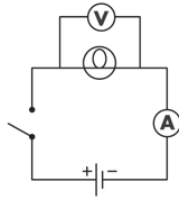

Figure 6.6: Circuit diagram for measuring the resistance of a light bulb.
1. Replace the spring-clip module with the bulb module and attach the voltage sensor across the bulb as shown schematically in Fig. 6.6